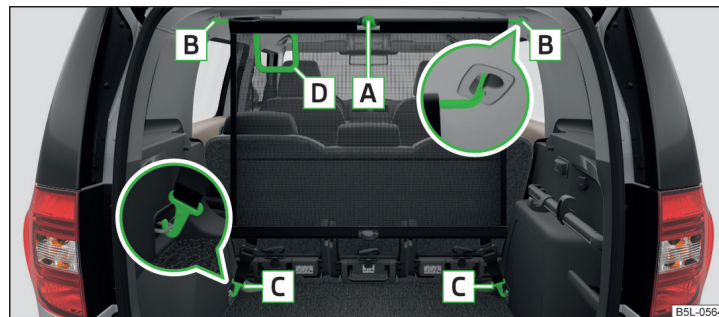

Fig. 106 Net partition behind the rear seats
- ▶ First insert the rod into the mount **B** » Fig. 106 on one side and push it forwards. In the same way, insert the cross rod into the mount **B** on the other side of the vehicle.
- ▶ Press the red button of the joint **A** » Fig. 106. The joint is undone.
The opening **D** » Fig. 106 in the net partition is for passing the three-point seat belt » page 15 through.